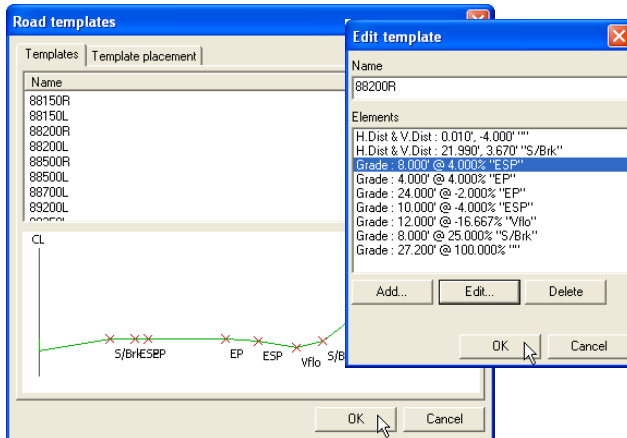

Figure 6-33. Update Template
- Click **OK** to update the template. Review the elements as needed and click **OK** to update the template on the template list (Figure 6-33).